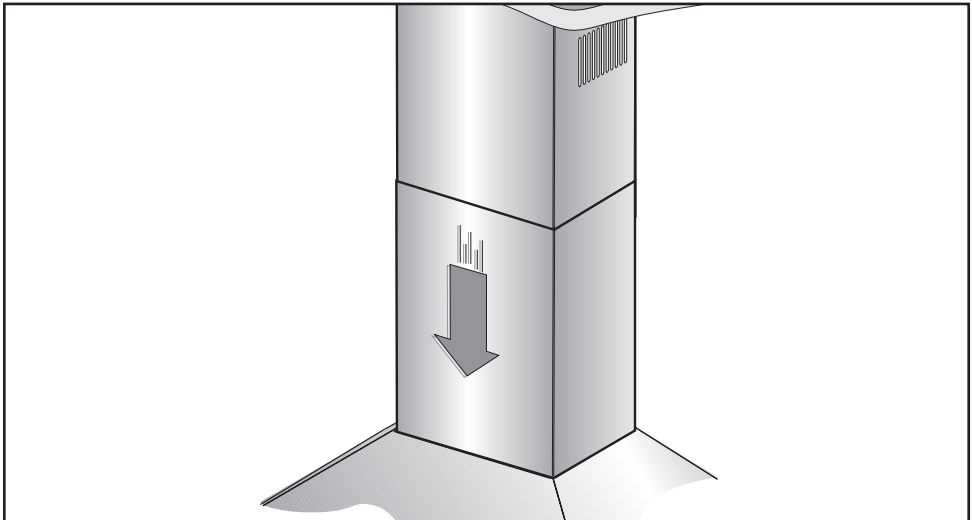

Fig.11
- Remove adhesive tape **L** and rest the lower chimney piece above the cooker hood (**Fig.11**).